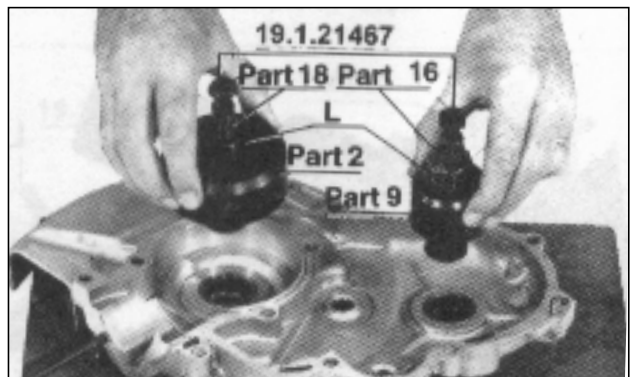

Fig. 139-Bearing Removal
Operation (I): Fix the tool T-0021467 collet (Part 18) and spacer (Part 2). (Fig.139)
Operation (II): Fix the tool T-0021467 collet (Part 16) and spacer (Part 9). (Fig.139)